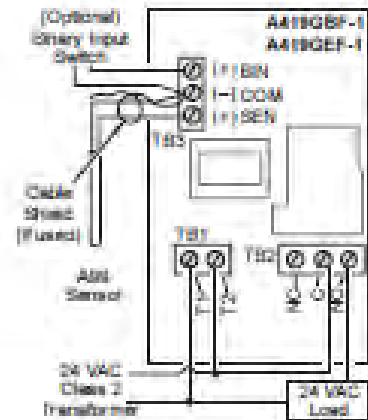
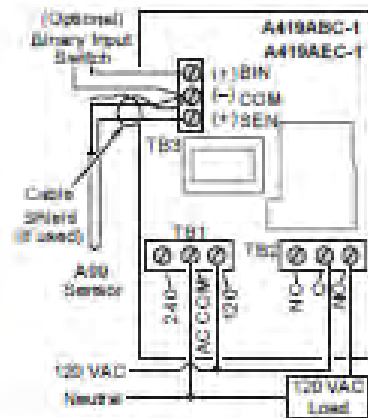
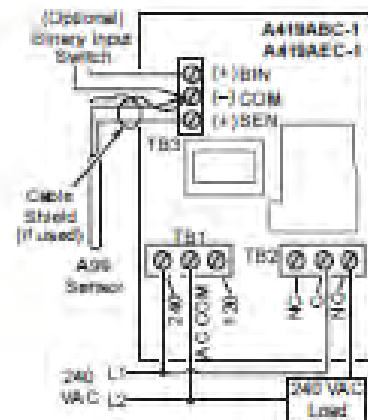

Figure 9: Wiring the 24 VAC A419 Control
Figure 10: Wiring the 120 VAC A419 Control
Figure 11: Wiring the 240 VAC A419 Control
Refer to Figure 9, Figure 10, and Figure 11 for typical examples of wiring an A419 control to the controlled equipment.
A99 temperature sensors are not polarity sensitive. Wire the leads to (+) SEN and (-) COM on the sensor terminal block (TB3). See Figure 9, Figure 10, and Figure 11.
If the Temperature Offset function is used, wire a switch (such as a switching time clock) between the binary input terminal (BIN) and the common terminal (COM). See Figure 9, Figure 10, and Figure 11 for terminal strip location.
- b. Use a reliable AC voltmeter to check the voltage between the COM and 120V or 240V terminals on line voltage models and the two 24V terminals on low-voltage models. Refer to Figure 9, Figure 10, and Figure 11.